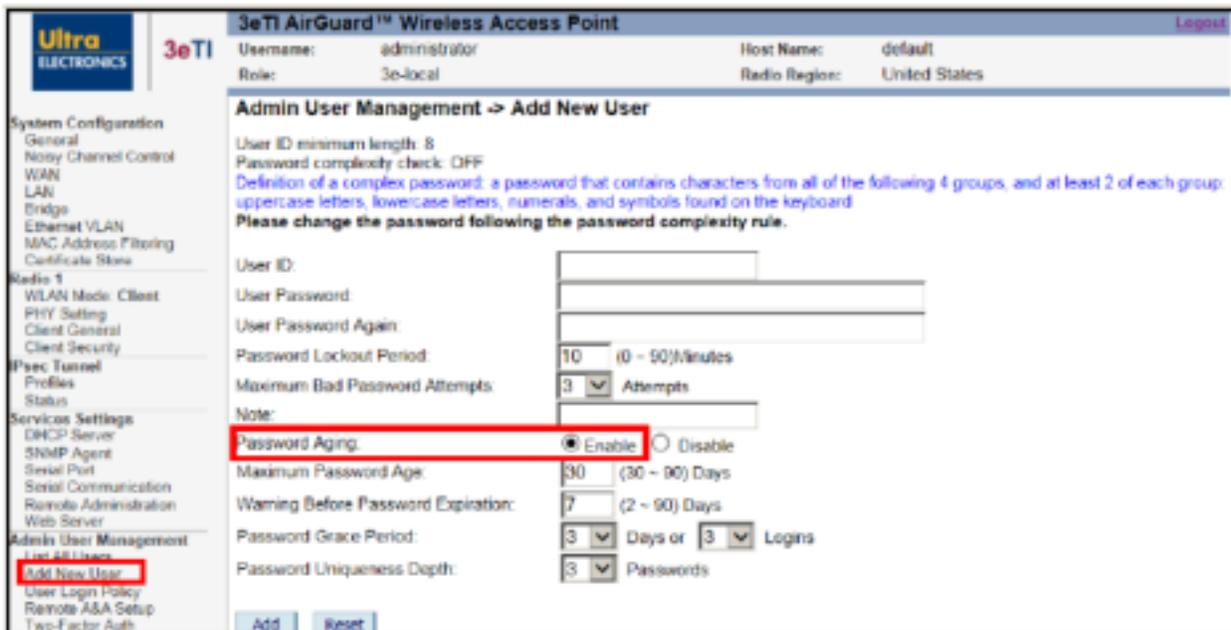

Figure 70: Password Aging
- **Password Aging:** By enabling the password aging feature (Figure 70), there will be a maximum time limit for the user's password after which the user will be required to change it. The default value is disabled.